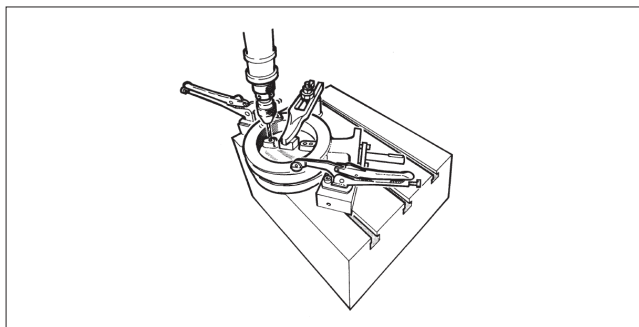

Fig. 16 Drilling the pins
- Remove the clamp ring (2) and seat ring (4) according to section 5.
- Set the valve horizontally on a sturdy surface so that the flat side of the disc lays against the surface (see Fig. 16).